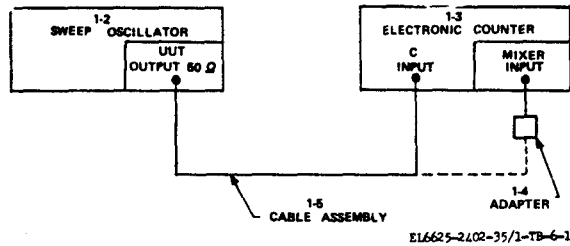

Figure 6-1. Frequency measurement, equipment setup.
- (1) Connect equipment as shown in figure 6-1.
- (2) Position sweep oscillator controls as follows:
- (3) Position UUT controls as follows.